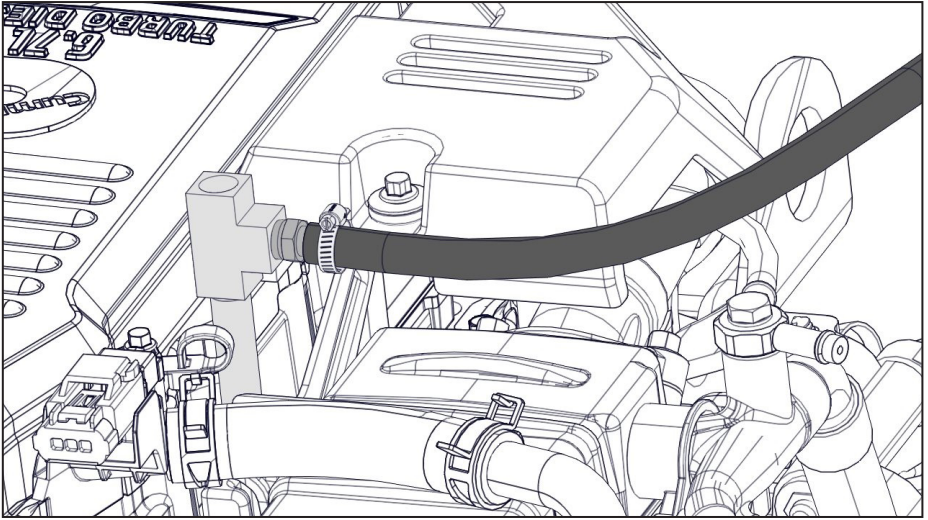

Figure 40 — Install coolant hose
- ☐ Connect the supplied 10 mm ID coolant hose to the hose barb and secure it using the supplied gear clamp (Figure 40).